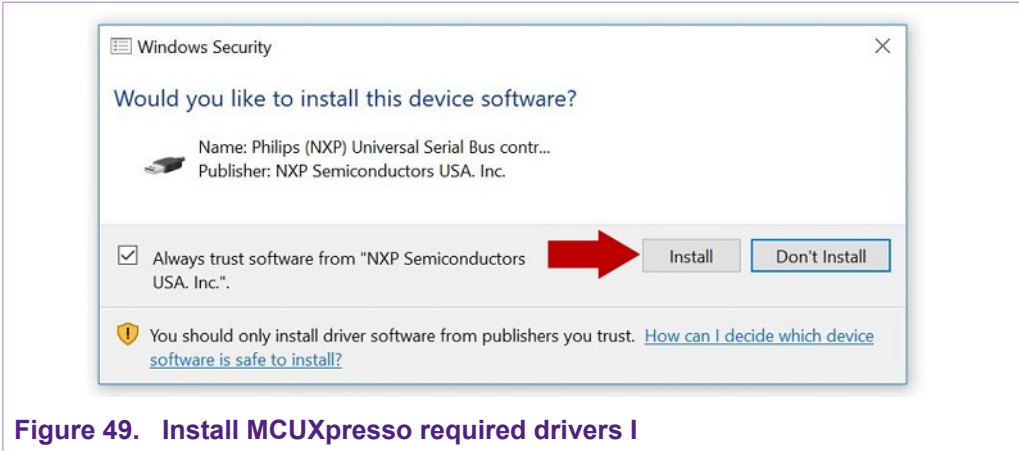
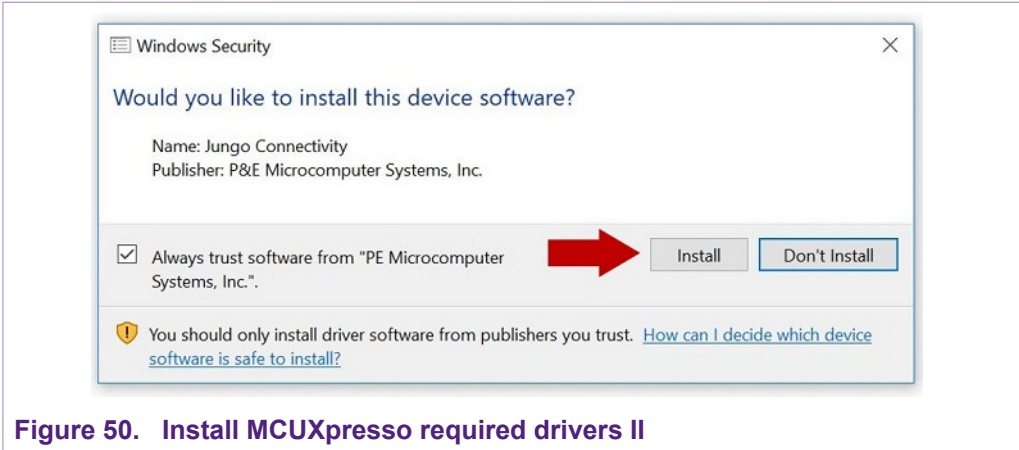
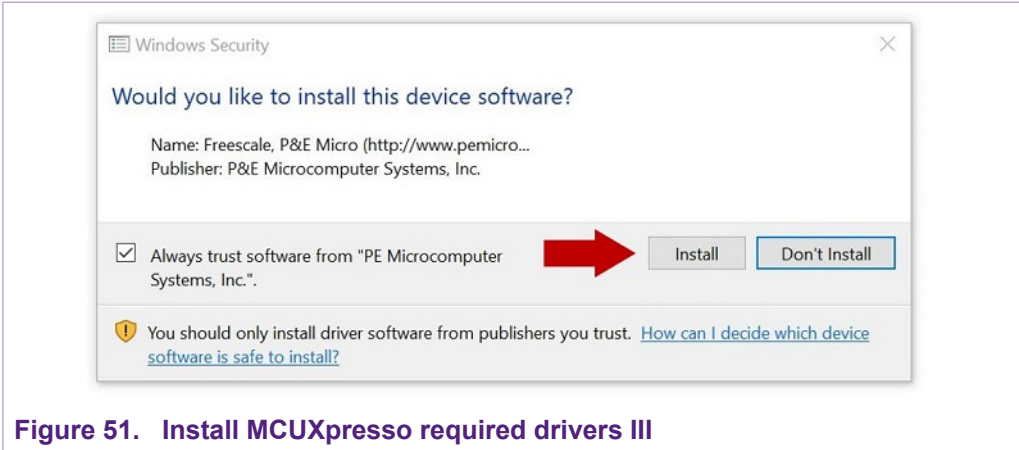
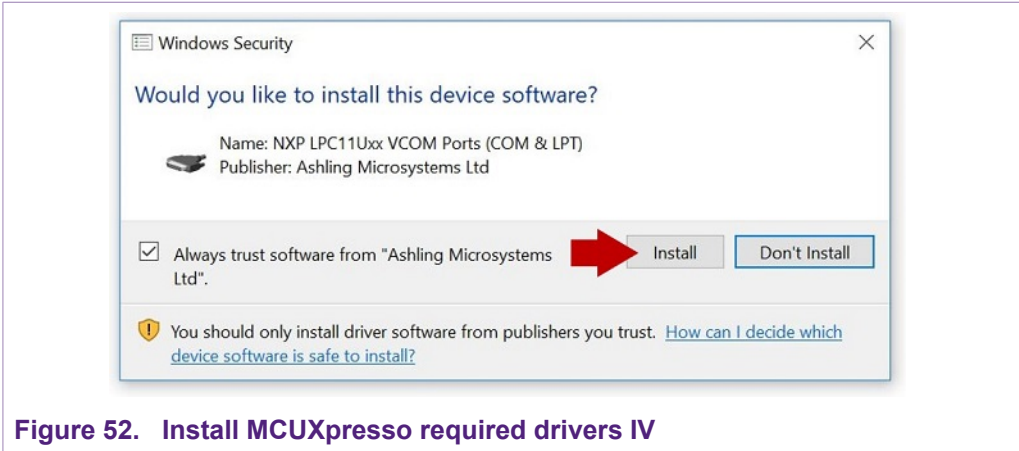

Figure 49. Install MCUXpresso required drivers I
Figure 50. Install MCUXpresso required drivers II
Figure 51. Install MCUXpresso required drivers III
Figure 52. Install MCUXpresso required drivers IV
7. Double click on the installer file and follow the setup wizard until MCUXpresso installation is completed. Please, make sure you allow the installation of the additional drivers required by MCUXpresso during the installation process as shown in Figure 49, Figure 50, Figure 51 and Figure 52:
| Fig. 20. | TeraTerm logs - se05x_minimal project example                    | 16 | Fig. 49. | Install MCUXpresso required drivers I                                            | 33 |
| Fig. 21. | Create se050_middleware folder                                   | 17 | Fig. 50. | Install MCUXpresso required drivers II                                           | 33 |
| Fig. 22. | Unzip se050 middleware                                           | 18 | Fig. 51. | Install MCUXpresso required drivers III                                          | 33 |
| Fig. 23. | Generate EdgeLock SE050 Plug & Trust middleware project examples | 19 | Fig. 52. | Install MCUXpresso required drivers IV                                           | 34 |